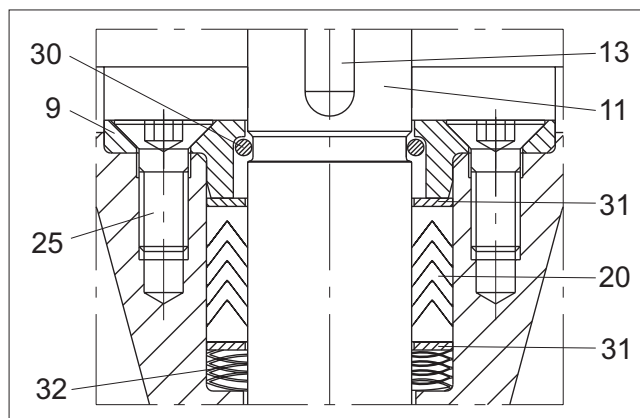

Fig. 18 Gland packing
In gland packing, V-ring set (20), tightness is ensured by pressure caused by the wave spring (32). See Fig. 18.